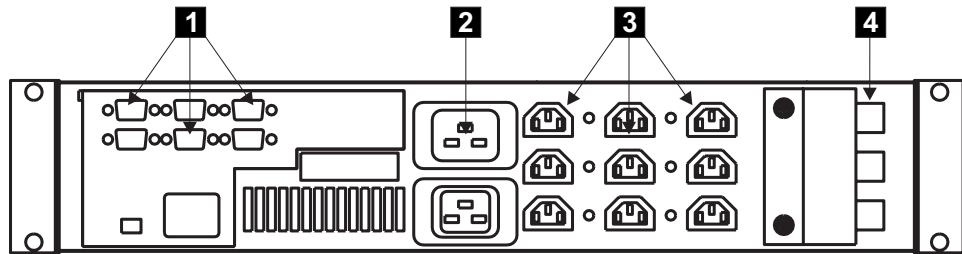

Figure 141. 2145 uninterruptible power supply (rear view)
2. At the back of the 2145 UPS (Figure 141 on page 305), disconnect the power cables of the SAN Volume Controller **3**.
4. Disconnect the main power cable **2** (Figure 141 on page 305).